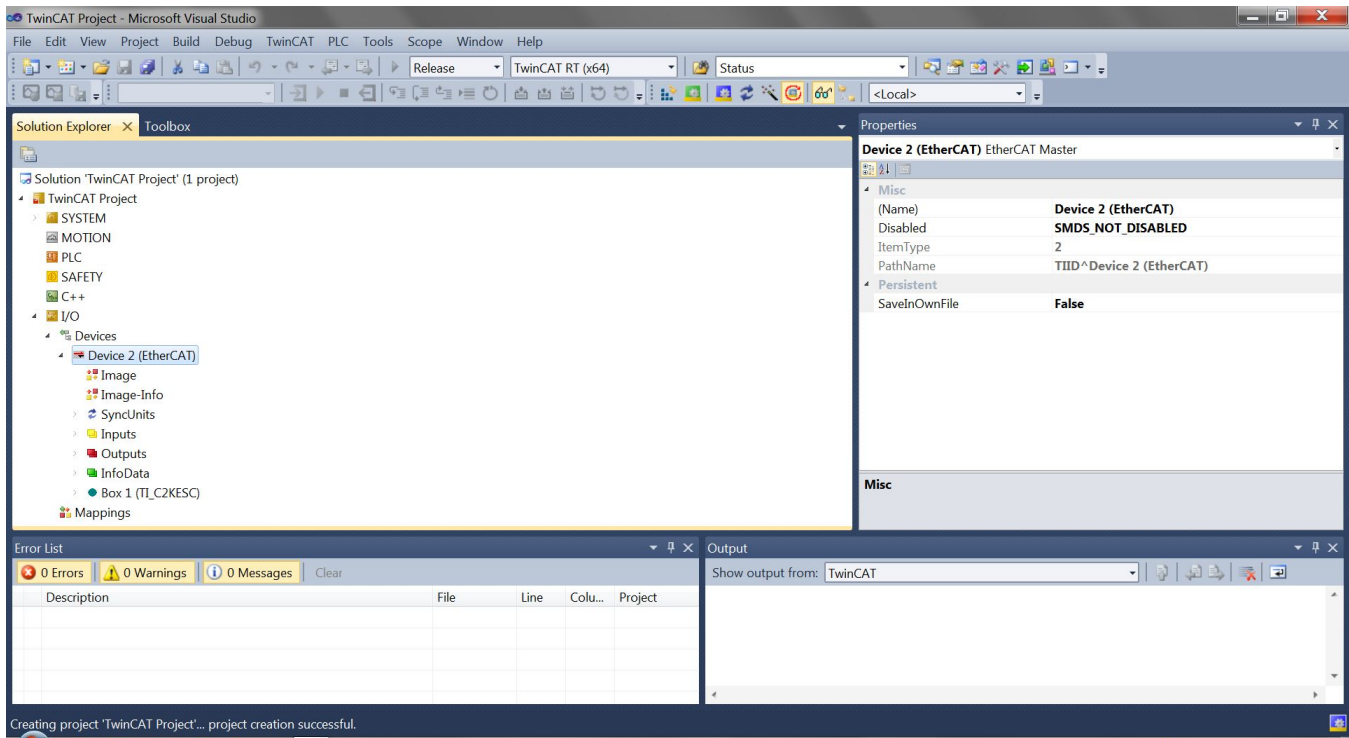

Figure 22. TwinCAT Solution Explorer Showing EtherCAT Master (Device 2) and Slave (Box1, TI_C2kESC)
- (c) The screen view shown in Figure 22 should now be visible in TwinCAT3, indicating that the Master and Slave are connected and prepared for use. Note that “Box 1 (TI_C2kESC)” appears at the bottom of the image, indicating that TwinCAT has discovered the EtherCAT slave. If this is the first time that the slave has been connected and the EEPROM has not yet been programmed, the “Box n ()” label (for example, “TI_C2kESC”) will not be visible.